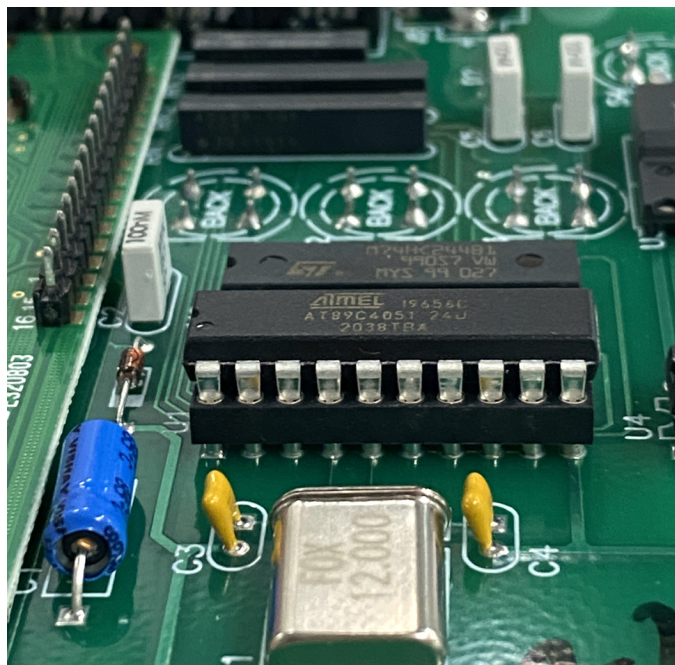

FIGURE 9—The chip is fully seated on the control board.
10. When the chip is fully seated on the board, it will look like the picture in Figure 9. Check both sides and make sure that the chip orientation is correct with the letters and numbers facing in the direction as shown below.